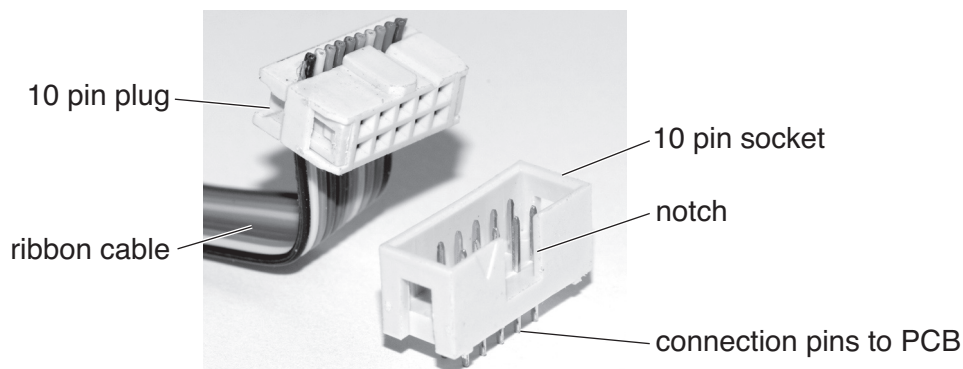

Fig. 14
- (b) The output of the circuit is to be connected to a separate display board using a ribbon cable and connector as shown in Fig. 14.